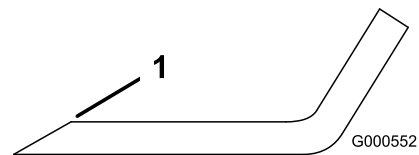

Figure 98
1. Use a file to sharpen the cutting edge at both ends of the blade (Figure 98).
Note: If the blade is not balanced, file some metal off the end of the sail area only (Figure 98).